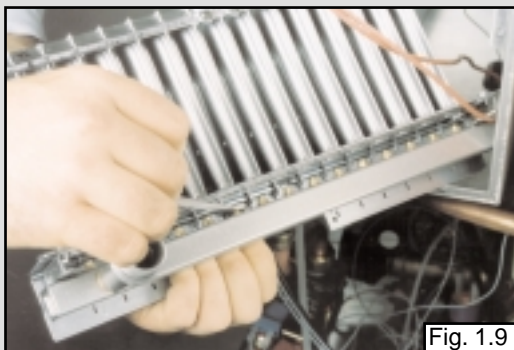

Fig. 1.9
3. Remove the injectors (see fig. 1.9);